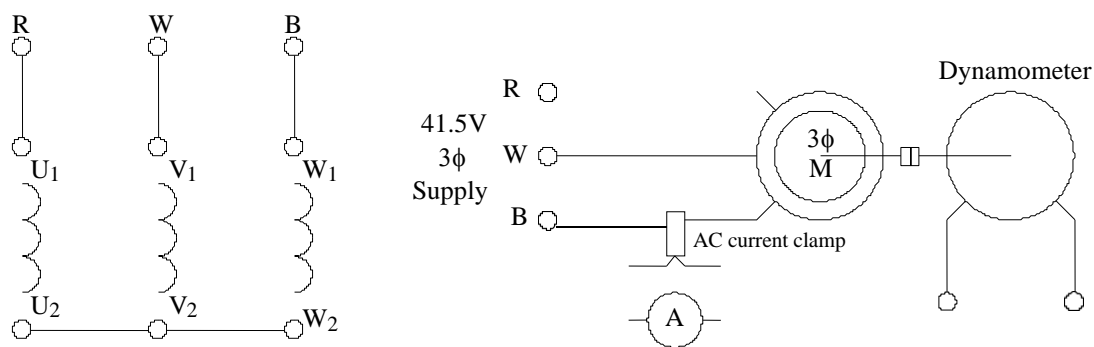

Figure 2
1. Use the circuit connection shown in figure 2.